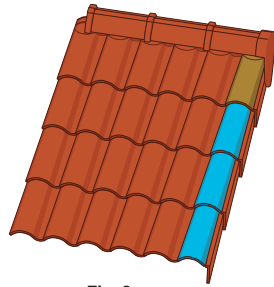
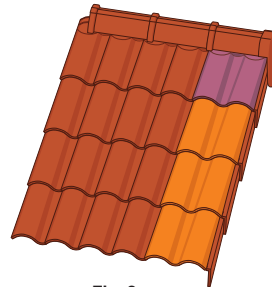

Fig. 2
Fig. 3
4. The right section (vertical terminating end) of the roof can be finished by using either a Half (1/2) Tile (**Q17**) (**fig.2**) or a Double Tile (**Q34**) (**fig.3**). To avoid cutting the field tiles when reaching the ridge line, a 2/3 under ridge tile (**Q36**) can be used in the upper course and closed by using a Double 2/3 under ridge tile (**Q38**) (**fig.4**).